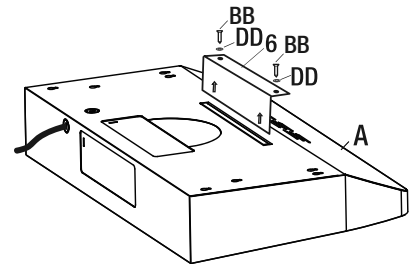

Fig. 12
- If you are venting indoors, unscrew the 2 screws holding cover (6) in place and remove the cover as per Fig. 12. DO NOT REMOVE ANY OTHER VENTING HOLE COVER.